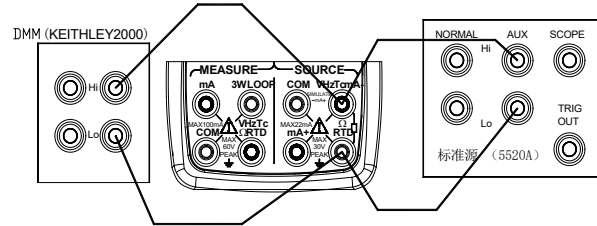

Figure 21 Adjusting resistance source
**Step 1:** Using the function selector switch SOURCE (FUNC), select resistance function. Connect the lead cables for measurement to the standard digital meter as shown in Figure 21.